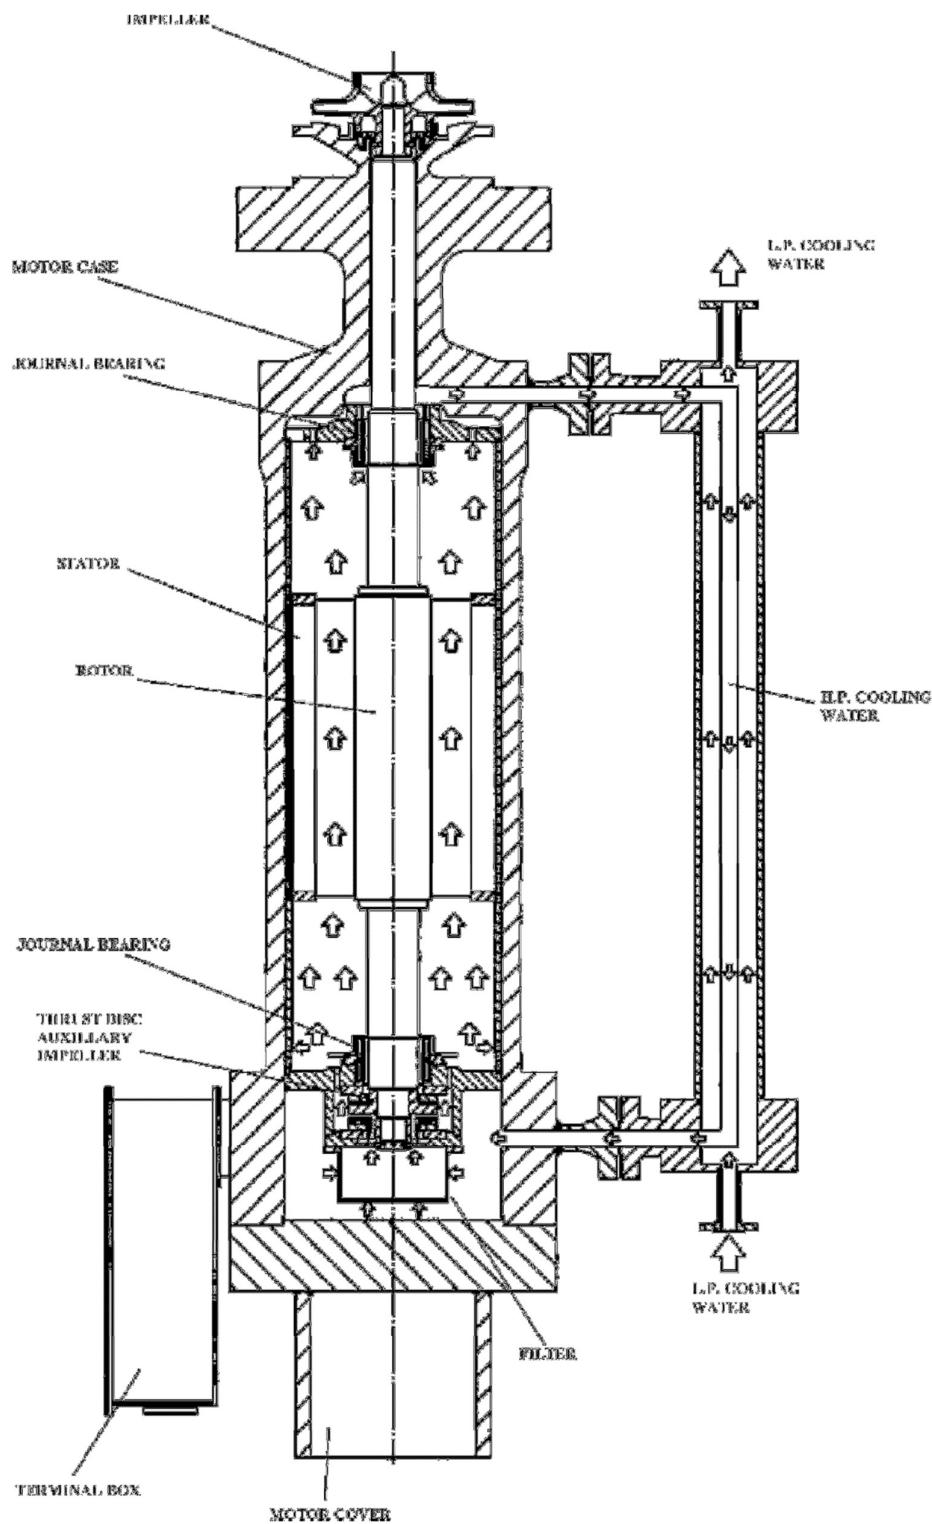

Fig. 1
4.3 Auxiliary Cooling Circuit (Fig. 1)